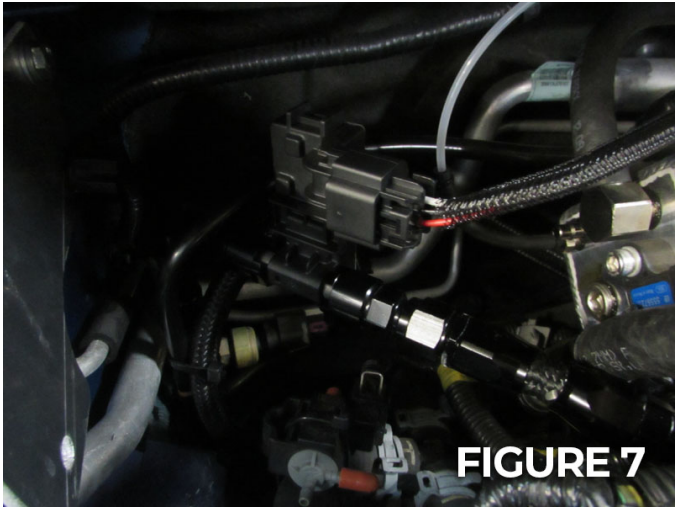

FIGURE 7
6. Remove the OEM fuel hose using a quick release wrench. Then you will install the 6AN quick connect fitting followed by the 90 degree union and the second 6AN quick connect fitting. Connect the OEM fuel line to the other side of the flex fuel sensor. Do not use excessive force while tightening AN fittings, the fitting seals on the conical face. (Fig 7)